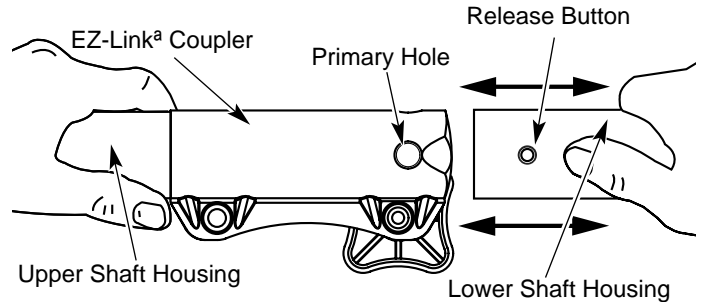

Fig. 25
- While firmly holding the add-on, push it straight into the EZ-Linka coupler (Fig. 25).
- While firmly holding the upper shaft housing, pull the cutting attachment or add-on straight out of the EZ-Linka coupler (Fig. 25).